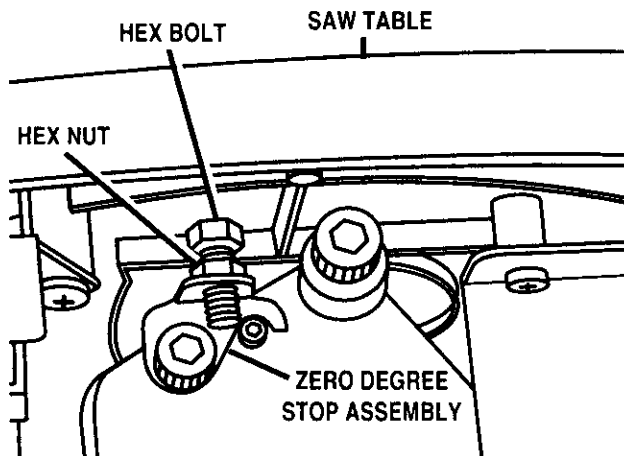

Fig. 11
- To access the zero degree stop, loosen the table lock knob, and tilt the table with the right side all the way down. Just under the front of the saw table is the zero degree stop. See Figure 11. Loosen the hex nut and rotate the hex bolt to raise or lower the bolt as needed to adjust the zero degree stop. Be sure to check to see that the table is square to the blade.